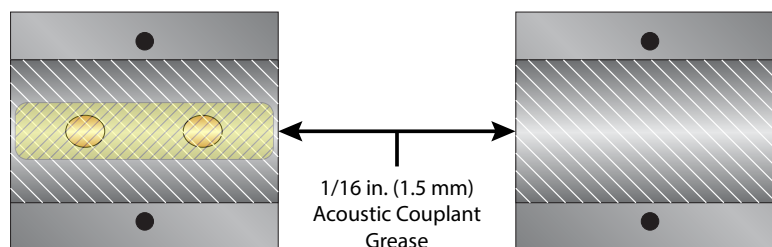

Figure 8: Application of acoustic couplant
2. Apply a thin coating of acoustic coupling grease to the half of the housing where the transducer will contact the pipe. See *Figure 8*.